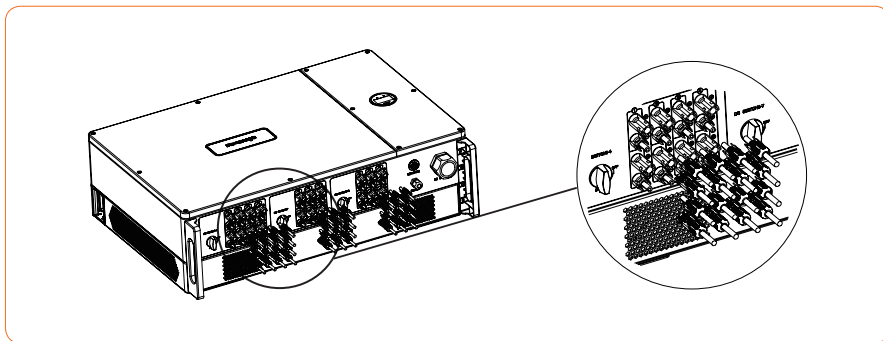

Figure 4-13
① Before assembling the DC connector, make sure that the cable polarity is correct.
② Use a multimeter to measure the voltage of the DC input string, verify the polarity of the DC input cable, and ensure that each string voltage is within 1000V.
3. Insert the positive and negative connectors into the inverter DC input terminals respectively, a click sound should be heard if the terminals are well connected, as shown in Figure 4-13: